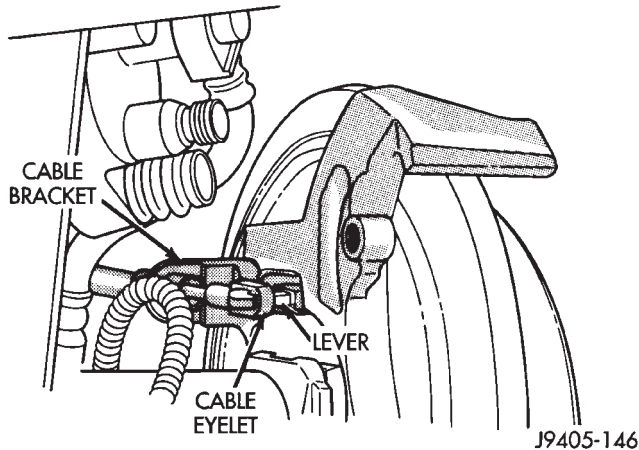

Fig. 46 Rear Cable Attachment
- (1) Raise vehicle and loosen adjusting nut at equalizer to provide slack in rear cables.
- (2) Disengage cable at equalizer. Then disengage cable from body and chassis clips and retainers.
- (3) Slide cable eyelet off actuating lever (Fig. 46).
- (4) Compress retainer securing cable in bracket attached to caliper bracket. Then remove cable from bracket.